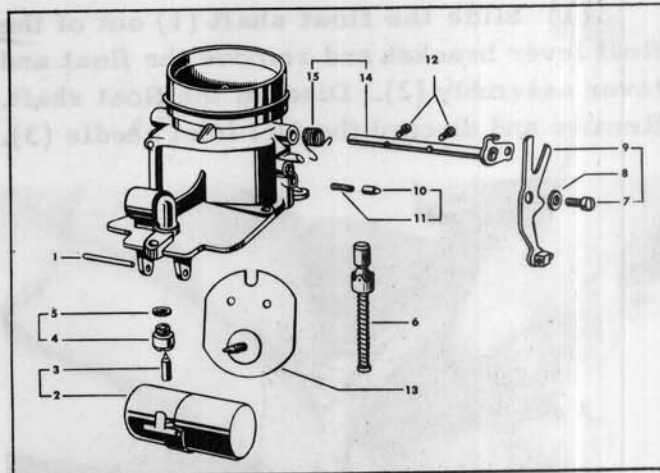

FIGURE 2 - DISASSEMBLY - AIRHORN
c. Disassembly - Airhorn Assembly - Figure 2.